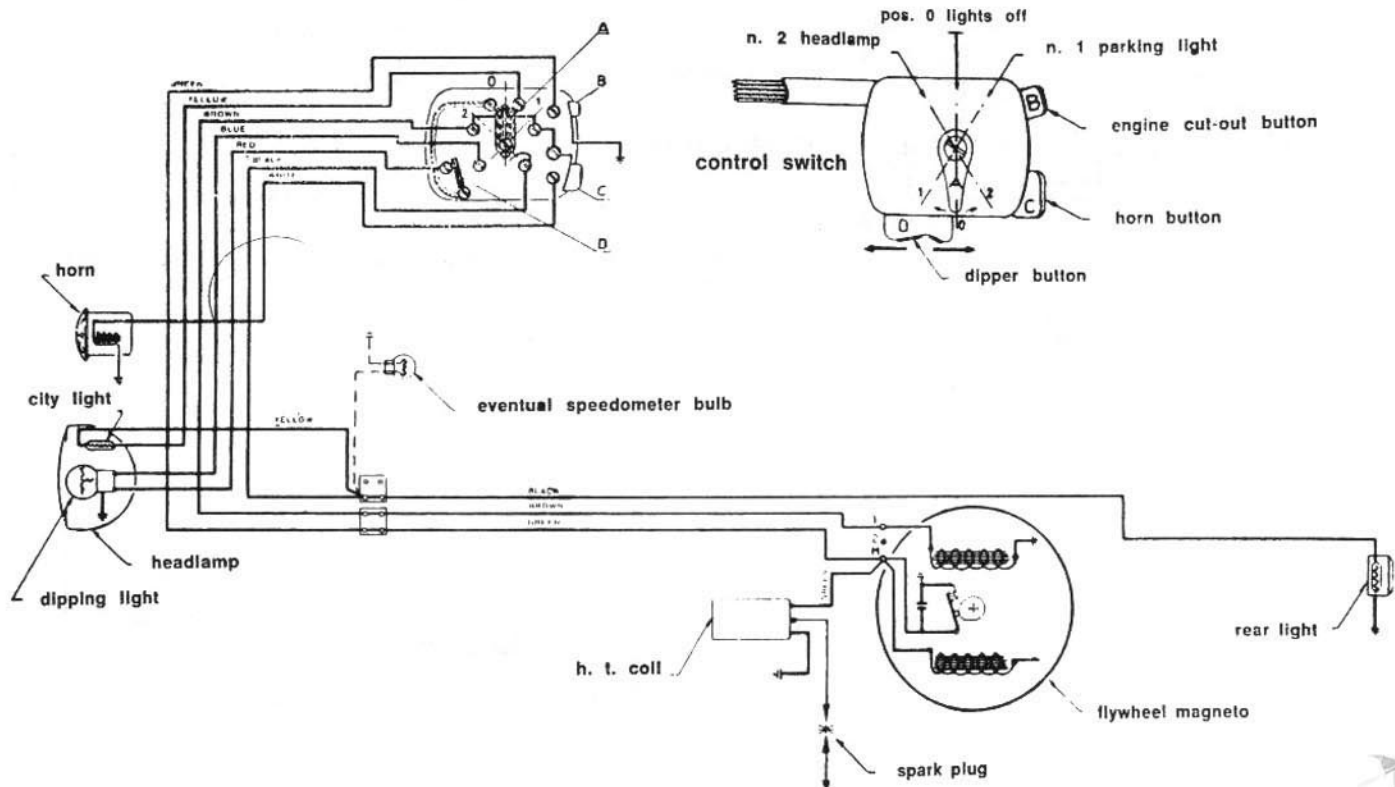

Fig. 45
N.B.: The first 6,000 125/LD Lambrettas are fitted with the horn (6A.301) which is connected direct to the main switch (12A.1761). On later machines, the horn will be connected through the junction box in the headlamp. Fig. 45 gives the wiring diagram relating to the first 6,000 machines.